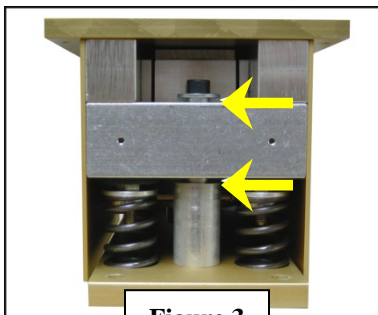

Figure 3
- A. There should be a gap above and below the cross brace on each central column, allowing for approximately 2 mm of travel on each side (see Figure 3).